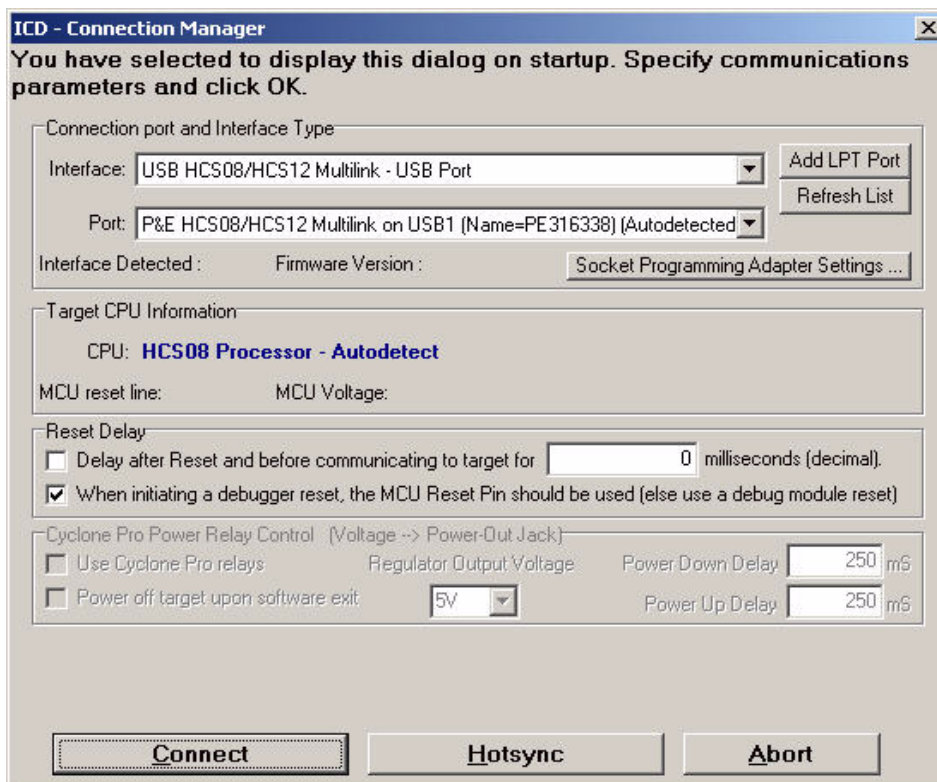

Figure 13. ICD Connection Manager Window (IDE)
If the connection to the USB BDM debugger is in place and the polarity to the BDM interface is correct, the debugger tries to download the binary to the target. At that point, the ICD-Connection Manager window (Figure 13) appears where users have the ability to select the target interface.
5. The ICD Connection Manager window (Figure 13) shows the available connections to the debugger. Select the correct Interface and Port using the appropriate drop down menus and click the Connect button.